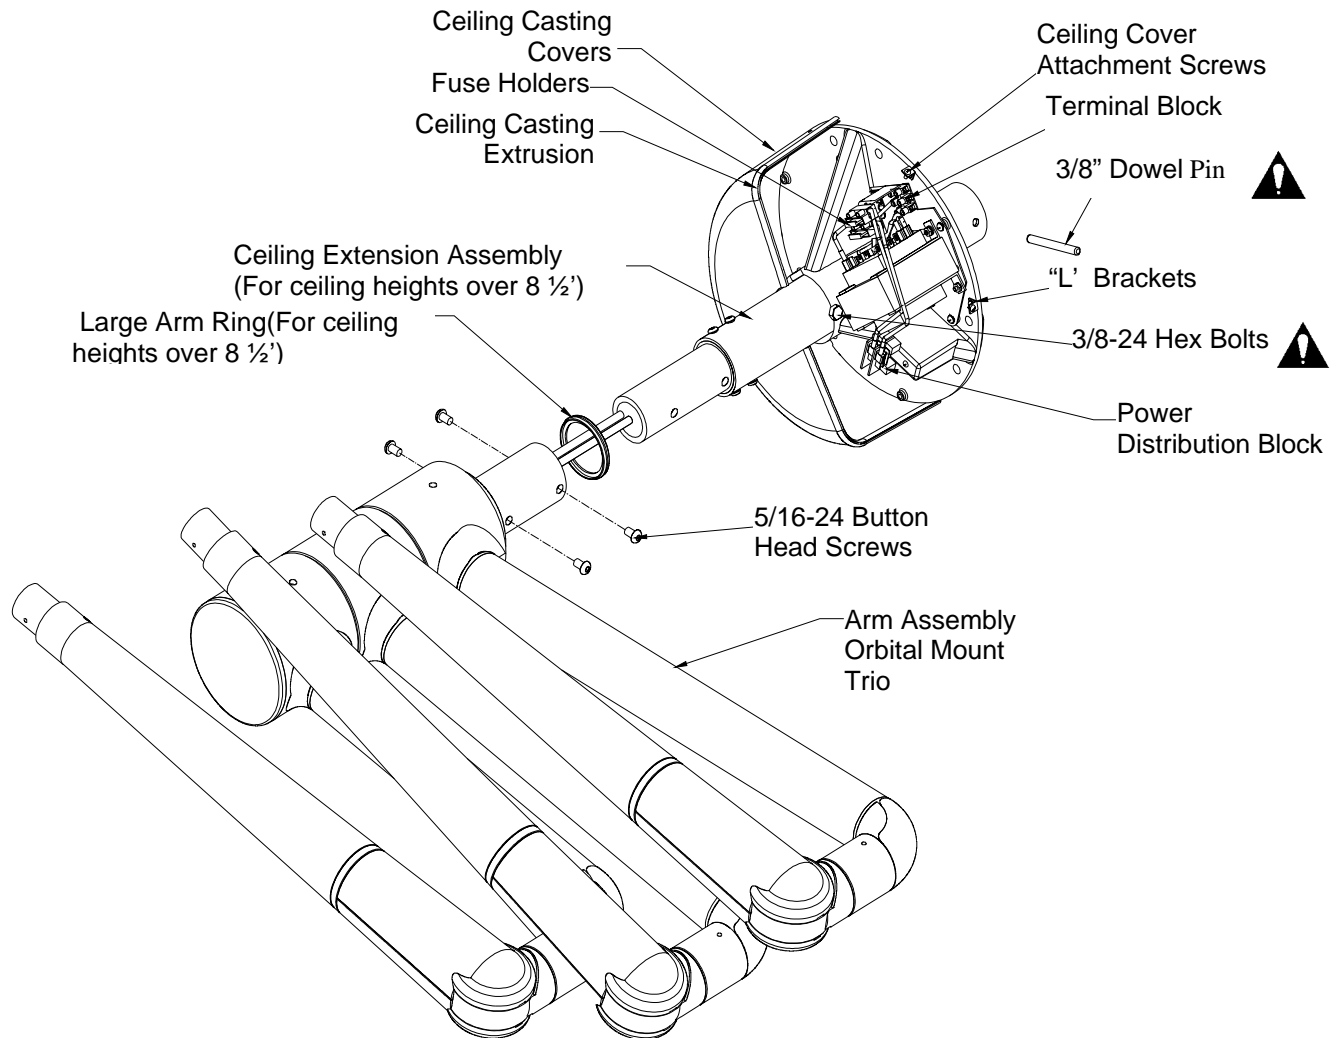

Figure 24-Trio Ceiling Mount (Orbital)
- With the ceiling casting laying on the floor or on a bench, slide the arm assembly into the hole in the ceiling casting in the direction shown in Figure 24. Push the rod through the casting exposing the hole at the end of the rod. Make sure to route the cables from the arm assemblies to the ballast assemblies.
- With the ceiling casting laying on the floor or on a bench, slide the ceiling extension assembly into the hole in the ceiling casting in the direction shown in Figure 24. Push the rod through the casting exposing the hole at the end of the rod.